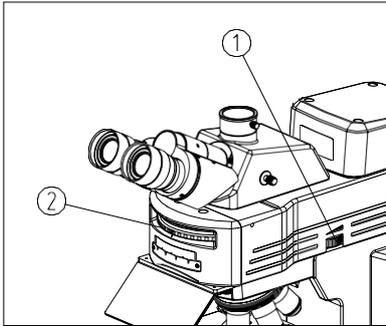

图 20
(1) Turn the light regulating handwheel ① anticlockwise. LED fluorescence lamps source is on until a sound of “dida” is heard. (See Fig 20)
(2) Turn the turntable ② , turn it to the position where is observed. LED light source is light on until a sound of “dida” is heard. (3) Now. Whether the LED is light on or not, depend on clock or anticlockwise. LED fluorescence is turn off until a sound of “dida” is heard.